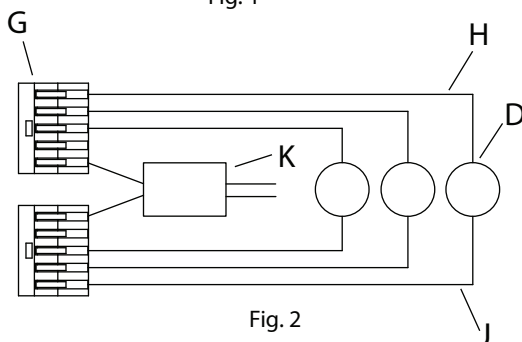

Fig. 2
1. Shut off power to the outlet box (A).
3. Determine the height at which each pendant is to be hung. Use the screwdriver (B) to loosen the set screw (C). Feed the power cords (D) through the bushings (E) on the canopy (F). Adjust the cord (D) to the desired length. Tighten the set screw to set.
4. Connect the fixture wires to the lever nuts (G) by pulling up on the lever for an empty slot (Fig. 1), inserting the wire, and pushing the lever back down to lock. The white inner conductor (H) and black outer conductor (J) on each cord (D) must be connected to separate lever nuts, as shown (Fig. 2).
- a. Connect the transformer's (K) live wire (black) to the live outlet box wire.
- b. Connect the transformer's (K) neutral wire (white) to the neutral outlet box wire.
- d. Carefully place connections and transformer (K) in outlet box (A).
6. Reserve extra cords (D) and lever nuts (G) in canopy (F).
7. Attach cross bar (L) to the outlet box (A), secure with outlet box screws (M).
8. Attach canopy (F) to nipple (N), secure with finial (P).